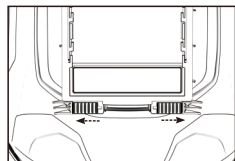

Fig. 4
- Re-install the Len Filter and frame into the helmet and lock the tab. (See Fig. 4)